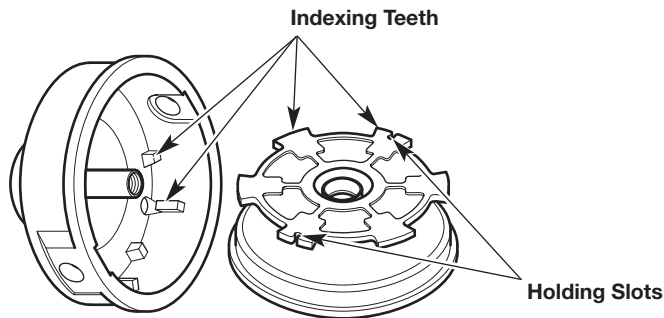

Fig. 29
6. Check the indexing teeth and holding slots for wear (Fig. 29). If necessary, remove burrs or replace the inner reel and outer spool.